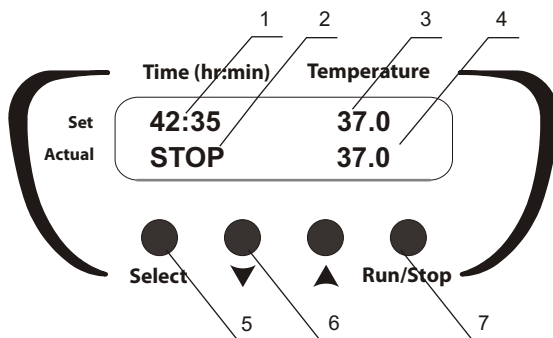

Fig.1 Control panel
4.3. Press the **Select** key (Fig.1/5) to choose the parameter to change (each pressing of the **Select** key consecutively activates the parameters; the active parameter is flashing).
4.4. Use the **▲** and **▼** keys (Fig.1/6) to set the required temperature. Temperature setting resolution is 0.1°C . The set temperature will be displayed in the upper line of the display (Fig.1/3). Pressing the key for more than 2 sec will increase the increment. The unit will start heating. The actual temperature will be shown in the lower line of the display (Fig.1/4).
4.6. Use the **▲** and **▼** keys (Fig.1/6) to set the required time interval. Time setting
resolution 1 min. The set time value will be displayed in the upper line of the display (Fig. 1/1). Pressing down and holding the button for more than 2 sec will increase the values change speed.
- 4.7. Press the **Run/Stop** key (Fig. 1/7) to start the timer. The elapsed time interval will be shown in the lower line of the display (Fig. 1/2).
- 4.8. After the set time interval is elapsed the timer will give a sound signal and the flashing STOP indication will be shown on the display. Press the **Run/Stop** key (Fig. 1/7) to stop the signal.
Attention! Stopping the timer does not stop the heating / temperature maintenance process. The heating can be stopped by reducing the temperature below 25°C using the ▼ T, C key (Fig. 1/6) (OFF indication will be shown on the display, fig. 1/3).